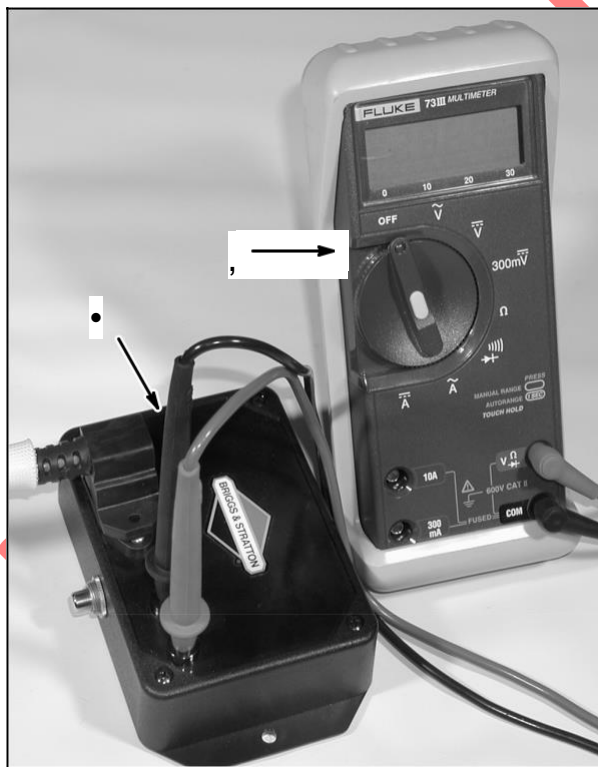

Fig. 38
Install alternator harness plug into socket in PowerLinkt Test Box #19528 (1), Fig. 38.